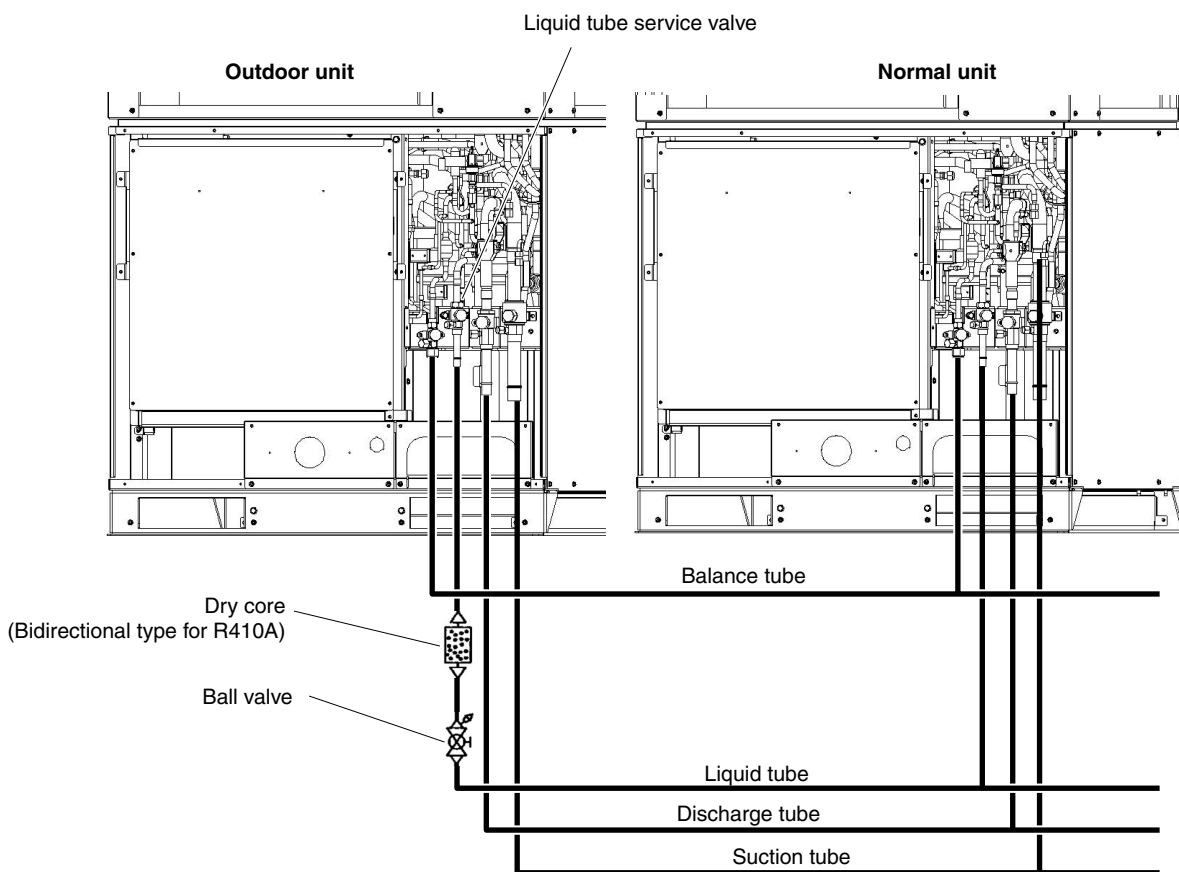

Fig. 19
- (5) As shown in Fig. 19, disconnect the tube that runs from the liquid tube valve to the ball valve on all outdoor units where dry cores will be attached. Then attach the dry cores.
- (6) At all outdoor units where dry cores are attached, pressurize with 3.3 MPa of nitrogen from the liquid tube service port and check for leaks.
- (7) After evacuating all nitrogen gas from the tubing, apply vacuum from the liquid tube service port to all outdoor units where dry cores are attached until the pressure is  $-101\text{kPa}$  (5 Torr) or less.
- (8) Fully open the liquid tube valve and ball valve on all outdoor units where dry cores are attached.
- (9) Operate all outdoor units for approximately 3 hours (in either Heating or Cooling mode or mixed Cooling and Heating mode).
- (10) Follow the above procedure, and replace all dry cores with new dry cores.
- (11) Operate all outdoor units for approximately 20 minutes (in either Heating or Cooling mode or mixed Cooling and Heating mode).
- (12) Follow the instructions in “3. Discharging Compressor Oil” and drain a small amount of the oil from the oil separators of all outdoor units where dry cores are attached. Check the color phase, odor, and other characteristics.
- (13) If the results show that dry core cleaning is still necessary (for example, a color phase of 4.0 or higher), return to Step 11 and repeat until the results are normal (including a color phase of 3.5 or less).
- (1) Refer to “Refrigerant recovery procedures (2) for indoor unit with no ball valve” under “5-2. Refrigerant Recovery Procedures (Indoor Unit).” Perform pump down of the refrigerant from all indoor units and inter-unit tubing to the outdoor unit side.
- (2) Cut the liquid (narrow) tube at all outdoor units where dry cores will be attached, then attach the dry cores and ball valves as shown in Fig. 19.
- (3) For the next steps, refer to (6) – (17) in (A) on the previous page.